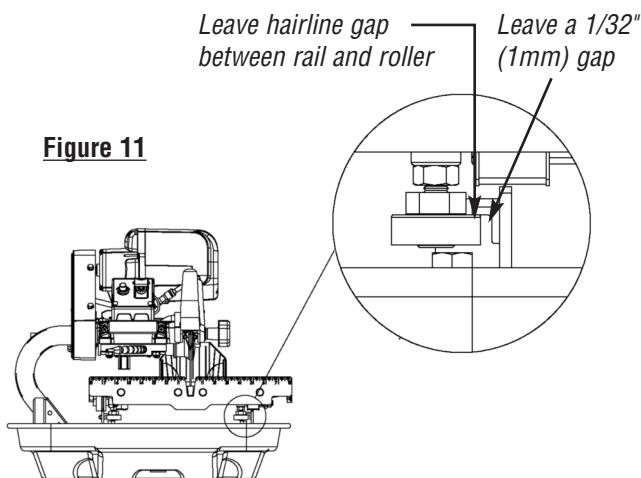

Figure 11
7. Adjust the right guide rail so that the horizontal rollers underneath the table engage the rail as shown in *Figure 11*. In most cases the rollers will not have to be vertically adjusted. Spacing between rails must be equidistant at all points to ensure that they are parallel. Once adjustments are made, lightly tighten the fasteners on the right rail and move the table back and forth. If the table binds against the rail at any point, adjust spacing accordingly until the table moves smoothly.
4. After adding shim(s), mount the table onto the guide rails by reversing the instructions in step 2. Move the rails toward each other to engage the horizontal rollers to the right guide rail as shown in *Figure 11*. Realign the table to the blade using method 1. Check to see if any shifting persists. A shift tolerance of 0.2mm is allowed. A shift in excess of that will require further adjustment—repeat step 3.
4. Restore the horizontal rollers to their original positions as shown in *Figure 11* by reversing the instructions in step 1. Be sure to tighten the lock nuts and replace the rubber caps.